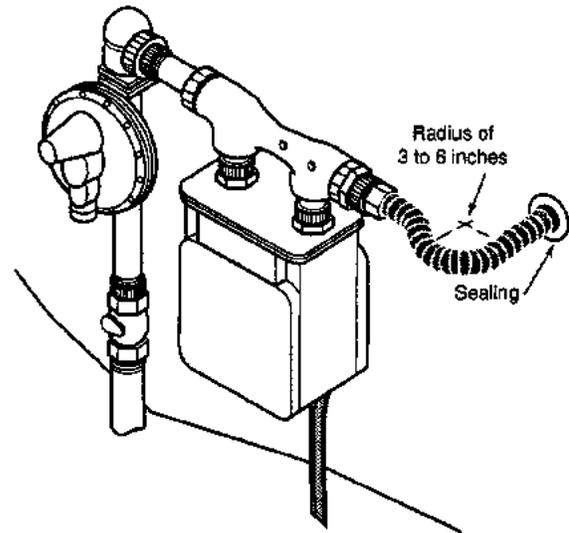

Figure 4-9
2. Meters which are independently supported with a bracket can be directly connected outdoors with **TracPipe**. If practical, direct connections shall include a 3 to 6 inch additional length of tubing to accommodate differential settling and meter movement. No mechanical protection of the tubing is required for outdoor connections. **PRIOR TO INSTALLING TracPipe DIRECTLY TO A METER, ENSURE THAT THE LOCAL UTILITY ALLOWS THIS PRACTICE** as some utilities have regulations specifying meter attachments. Any exposed sections of stainless steel piping must be wrapped with a silicone self-bonding tape. This is especially important with masonry construction. (Figure 4-9) A PVC Sleeve is recommended for **TracPipe** penetration of both masonry and wood frame construction.